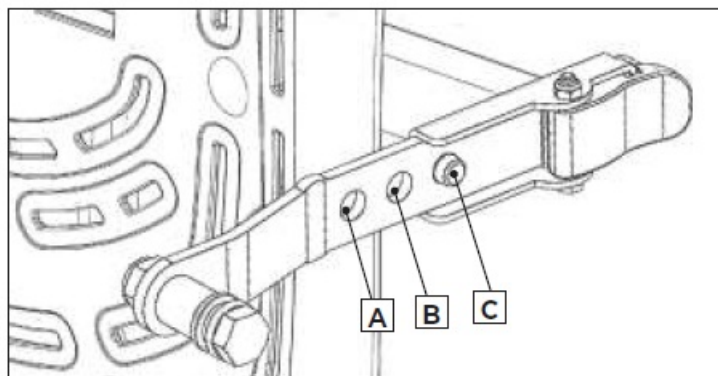

Figure 14
- Figure 14: This figure shows the Roller Hinge installed correctly, with the Bracket Pin engaged in Setting C.